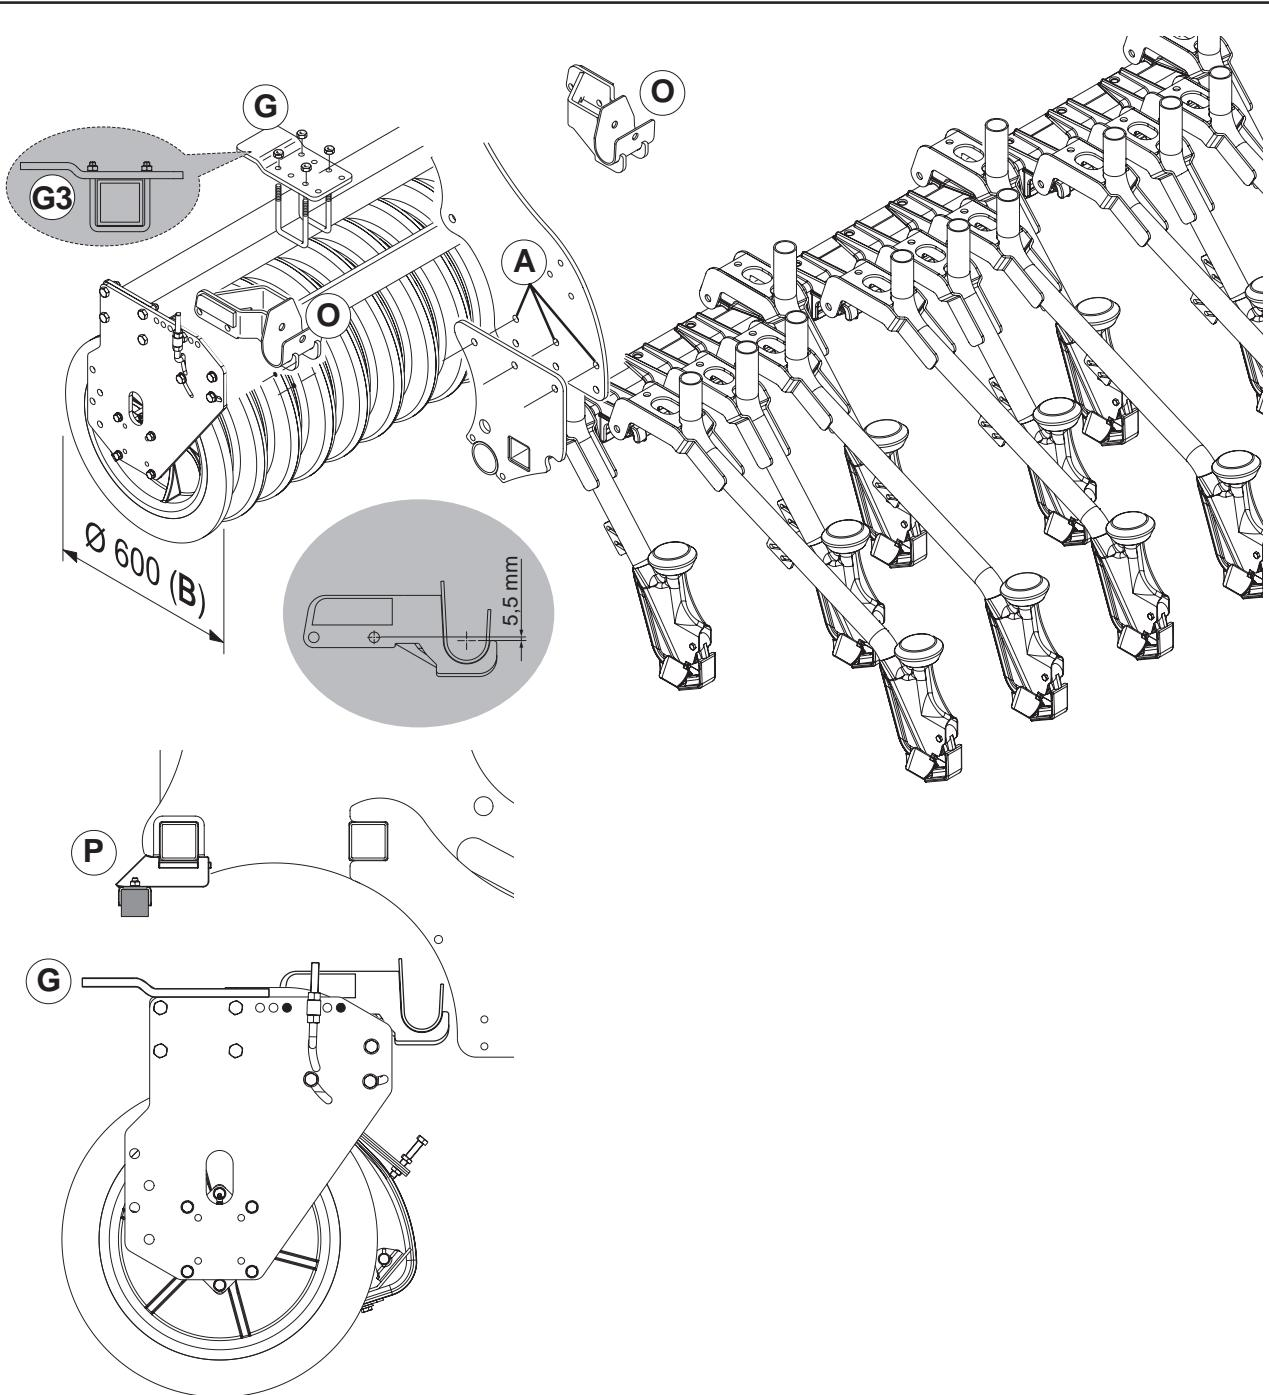

fig. 14
- Nr. 2 supporti (O, Fig. 14).
- Nr. 2 supporti (P, Fig. 14).
- 1) Position of the bar of seeds A (Fig. 14).
- Assemble the two seeder-supports (O, Fig. 14) on the hind roller side panel of the rotating harrow, as showed in Fig. 14.
- In correspondence of supports (P, Fig. 14), to mount slabs of support (G) like indicated in Figure 14. To make attention the correct assembly of the slab (G3).